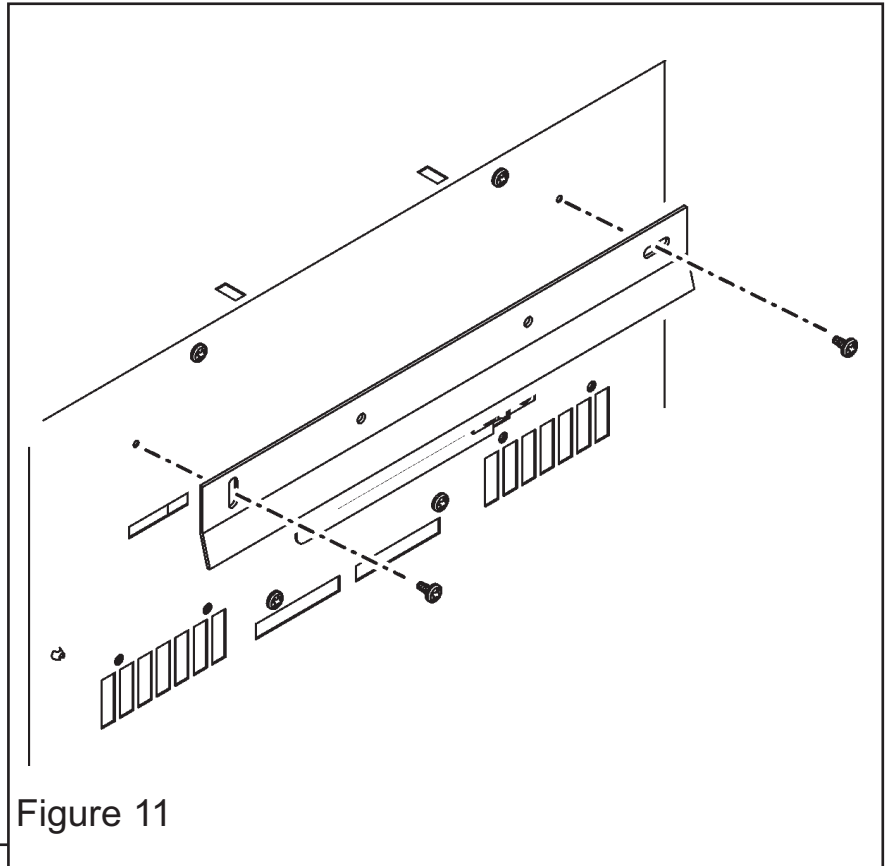

Figure 11
2. The Elevated Installation kit contains two wall mounting brackets and one lower bracket. Secure one of the wall mounting brackets to the rear of the heater using two of the No.8 x 3/8 screws supplied. Ensure that the bracket is correctly orientated before securing (See figure 11).